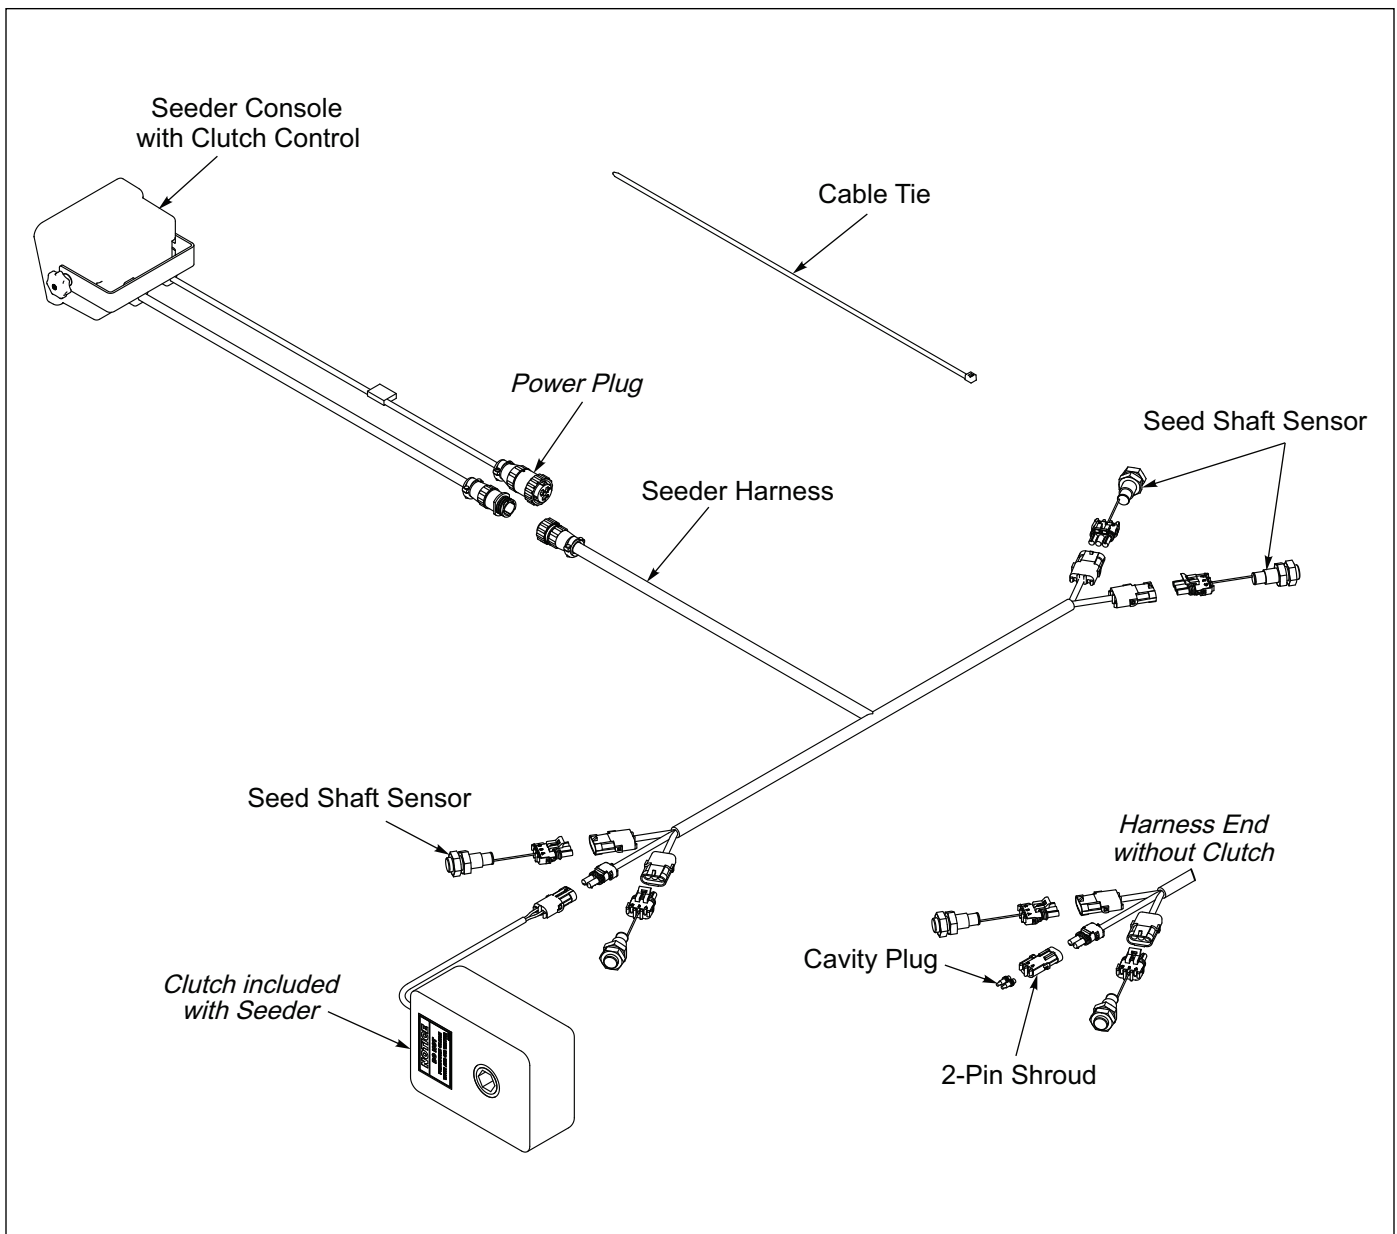

Figure 2-29: Sensor Schematic
5. On left side connect plug labeled "Electric Clutch Power" to the Electric Clutch lead. If you do not have an Electric Clutch, seal the plug end using a 2-Pin Shroud and Cavity Plug to protect it from the environment. **See Figure 2-29.**